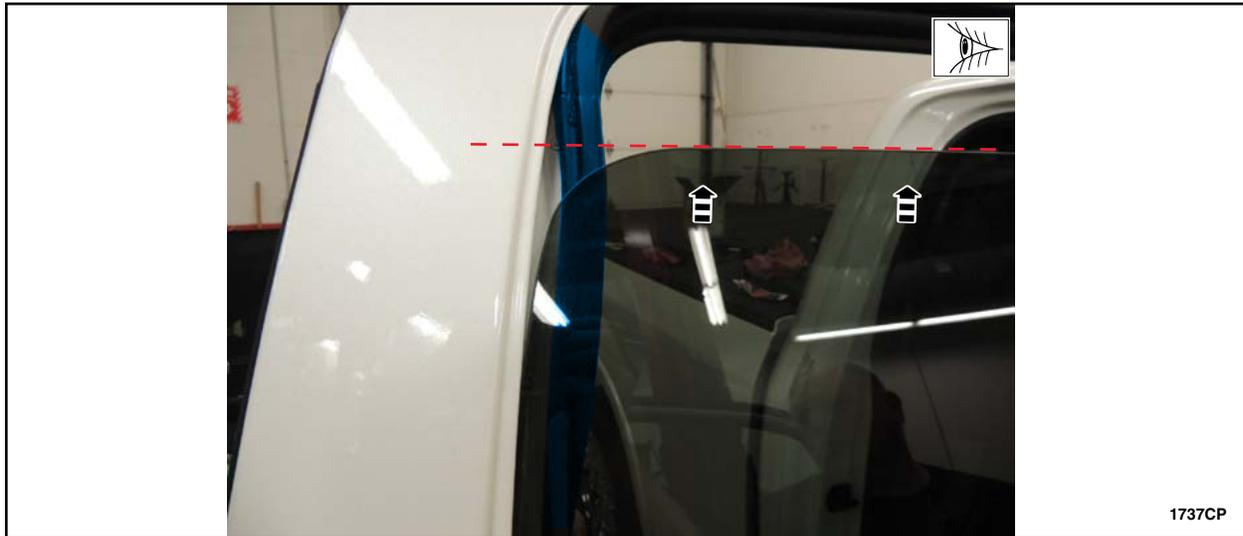

FIGURE 49
20. With the rear door latch side door glass top run still positioned aside, raise the rear door window glass three quarters of the way up. See Figure 49.